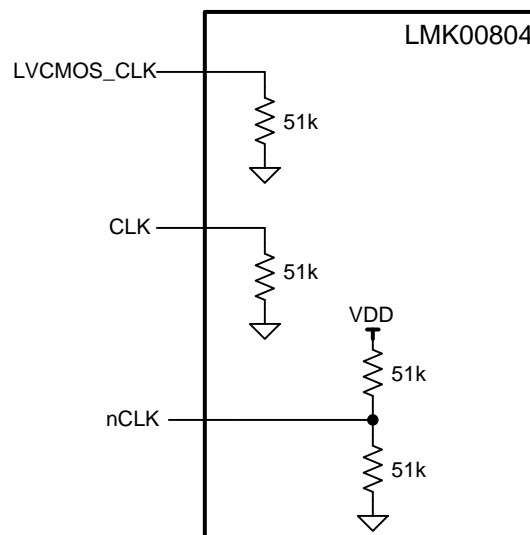

Figure 10. Clock Input Components
- **CLK/nCLK Inputs:** See Figure 10 for the internal connections. When using single ended input, take note of the internal pull-up and pull-down to make sure the unused input is properly biased. To interface a single-ended input to the CLK/nCLK input, the configuration shown in Figure 12 is recommended.
- **LVC MOS_CLK Input:** See Figure 10 for the internal connection. The internal pull-down (R_{PD}) resistor ensures a low state when this input is left floating.